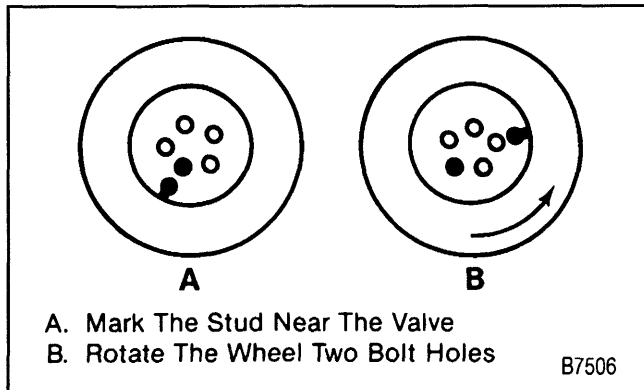

Figure 13—Tire and Wheel Assembly to Hub/Rotor Vectoring
1. Mark the wheel hub bolt nearest the valve stem for reference (figure 13).
2. Rotate the tire assembly two wheel hub bolts and recheck the runout (figure 13).